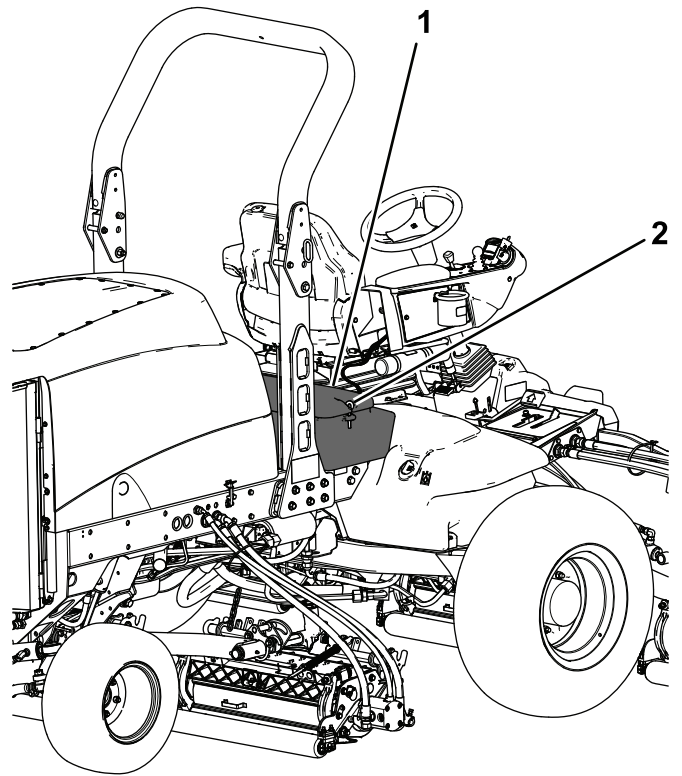

Figure 61
2. Unlatch and raise the operator's console panel (Figure 61).